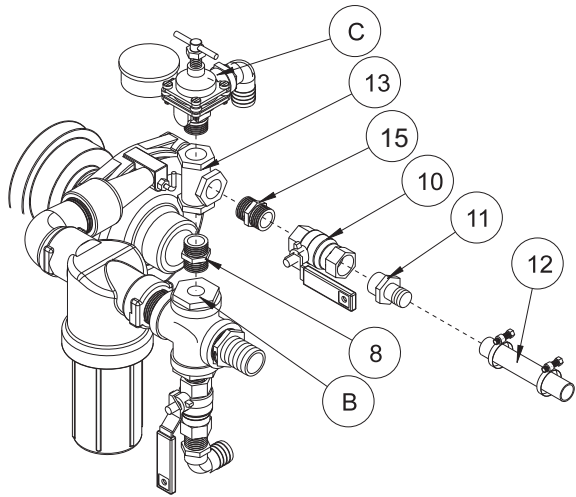

Figure 1
12. **For 1602P:** Remove hose from elbow "C" on throttling valve. Remove throttling valve, gauge and elbow. Assemble as shown in Figure 1. Putting throttling valve with gauge and elbow into top of tee and reconnect the hose.